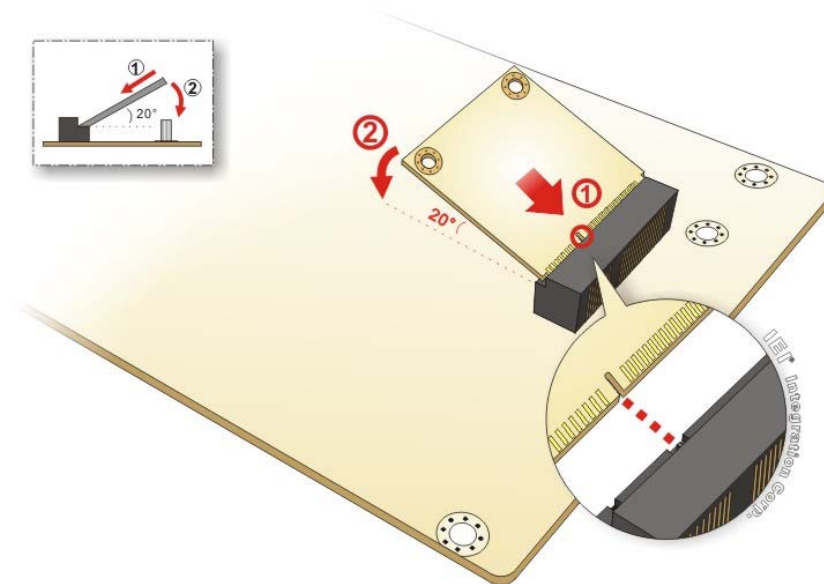

Figure 4-3: Inserting the iRIS-1010 Module into the Slot at an Angle
Step 3: Insert into the slot at an angle. Line up the notch on the module with the notch on the slot. Slide the iRIS-1010 module into the slot at an angle of about 20° (Figure 4-3).